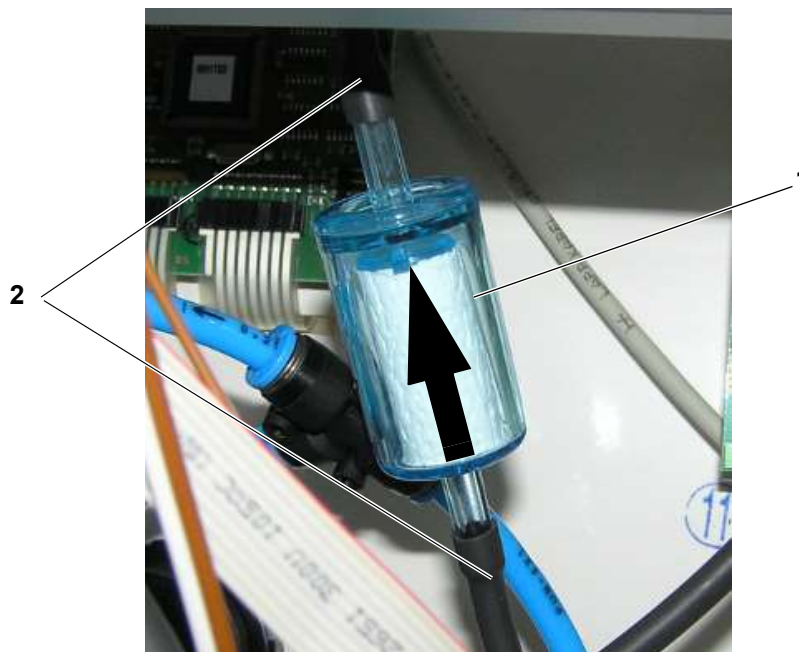

Fig. 132: Gas filter
- Lift the top part of the needle guide and remove the old needle guide seal (Fig. 132, page 196).